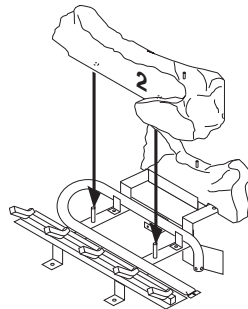

Figure 19 - Installing Log #2 (CD36M-A Series Shown)
- Place log #2 (large front log) over pins on grate (see Figure 19).